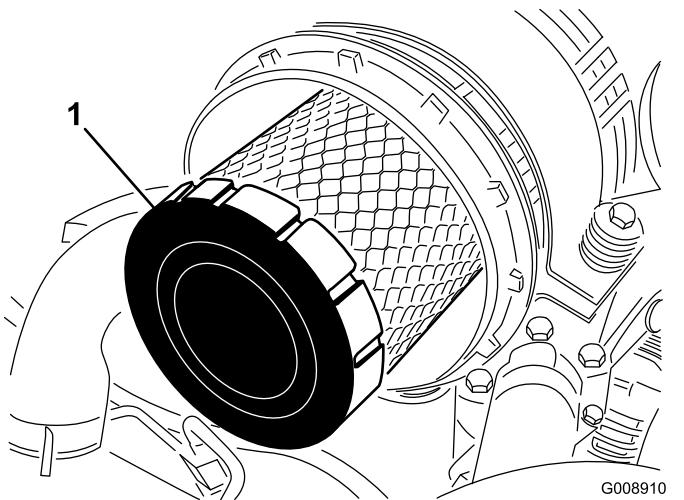

Figure 46
4. Remove and replace the primary filter (Figure 46).